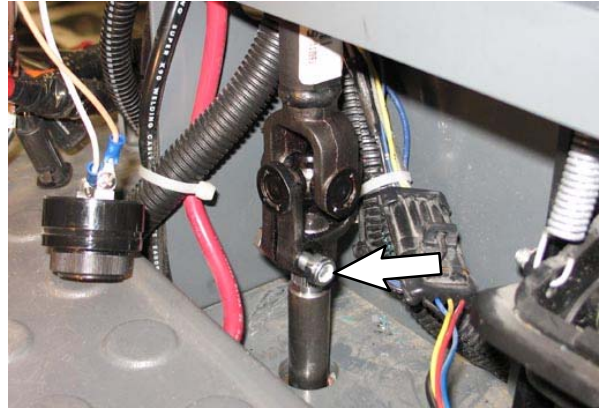

FIG. 64
26. Tighten the hardware to secure the steering shaft (1) to the lower steering shaft. (Fig. 64)